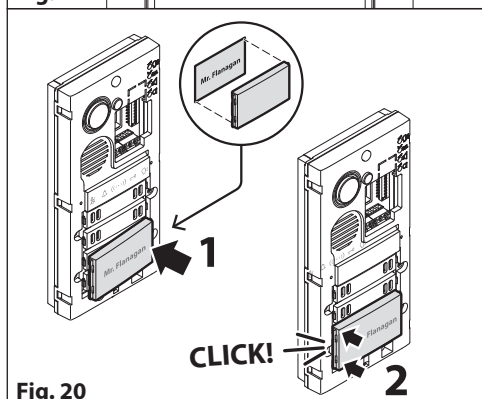

Fig. 20
2. Place the desired nameplates (two or four buttons layouts) first on one side and then pressing gently on the other until you hear a **CLICK!** Make the appropriate dip-switch settings (Fig. 20).